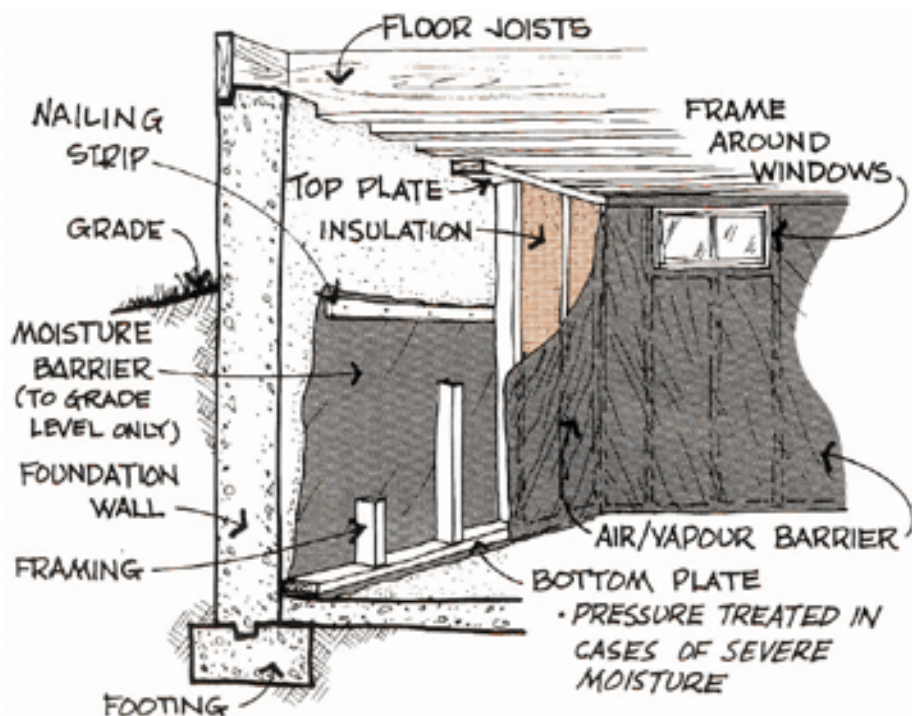

Figure 5
**It is important** that this barrier extends only up to or slightly above the exterior grade level to prevent trapping moisture within the framed wall (Figure 5).